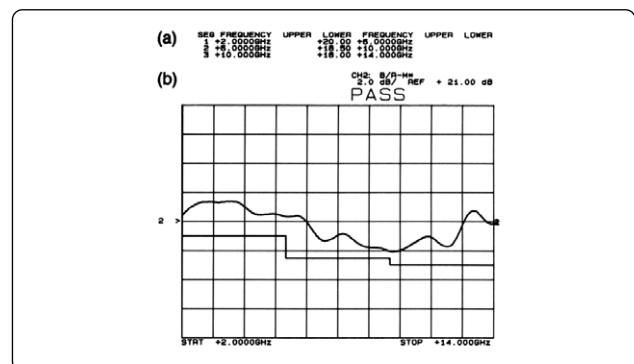

Figure 12. (a) Example limit line entries for minimum gain specification and (b) plot showing limit lines, gain trace and PASS/FAIL status.
- Turn on limit lines by selecting [DONE], then [LIM LNS ON]. Figure 12 shows an example limit entry with 3 flat segments.